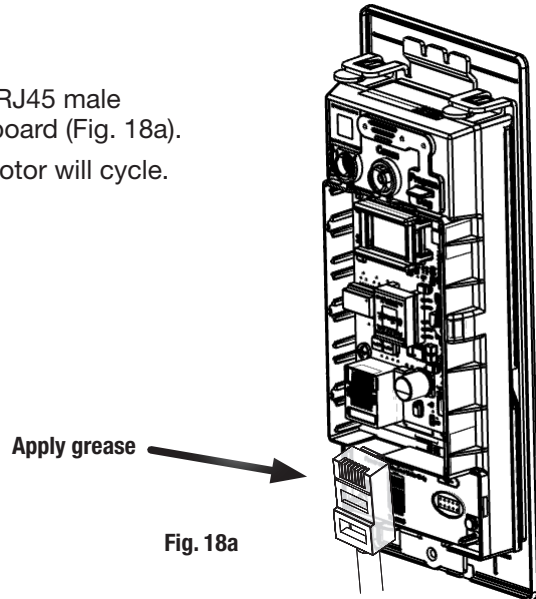

Fig. 18a
Important - before inserting PoE plug into PoE connector, apply dielectric grease to top of plug, covering the pin area (Fig. 18a).
1. Once controller is securely in place, connect RJ45 male connector to female RJ45 port on controller board (Fig. 18a).